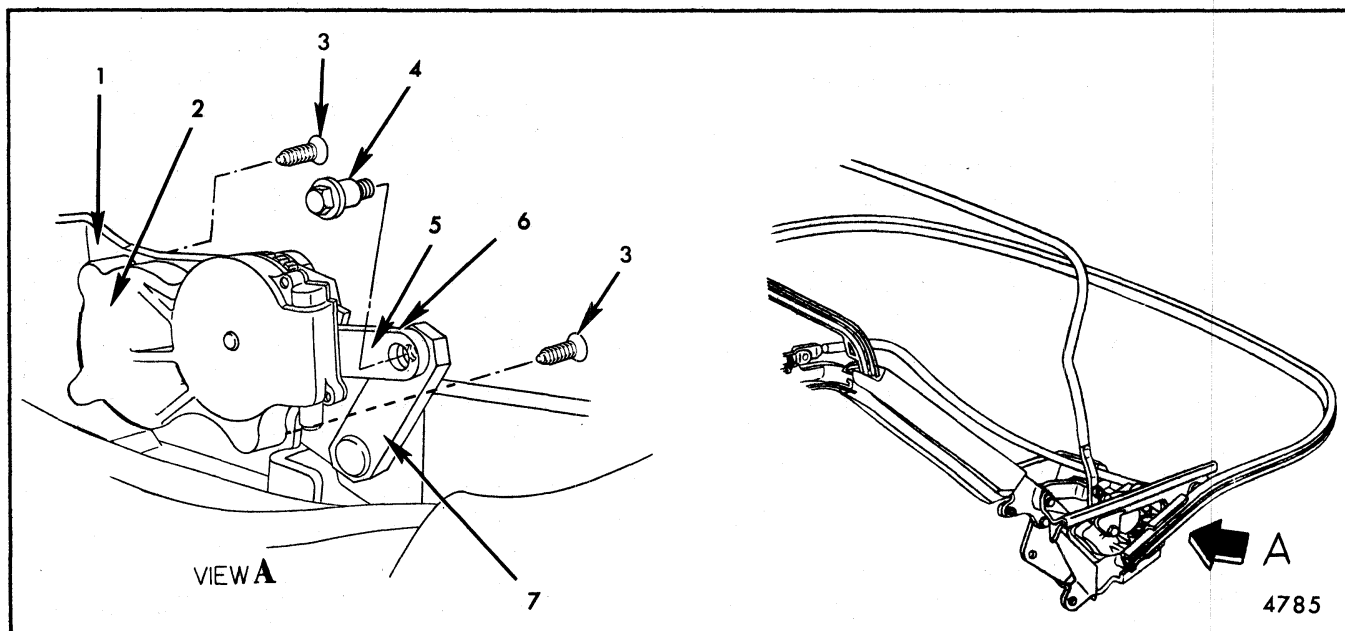

Fig. 8-101-Folding Top Actuator Attachment (View in Direction of Arrow "A")
A folding top actuator assembly is secured to each main hinge by three attaching screws (Fig. 8-101) and to the side rail system by a shoulder bolt. The shoulder bolt threads into the actuator link and is locked in place with a set screw. Actuator assemblies are operated by electrically powered drive cables.
4. Remove actuator attaching screws (Fig. 8-101).